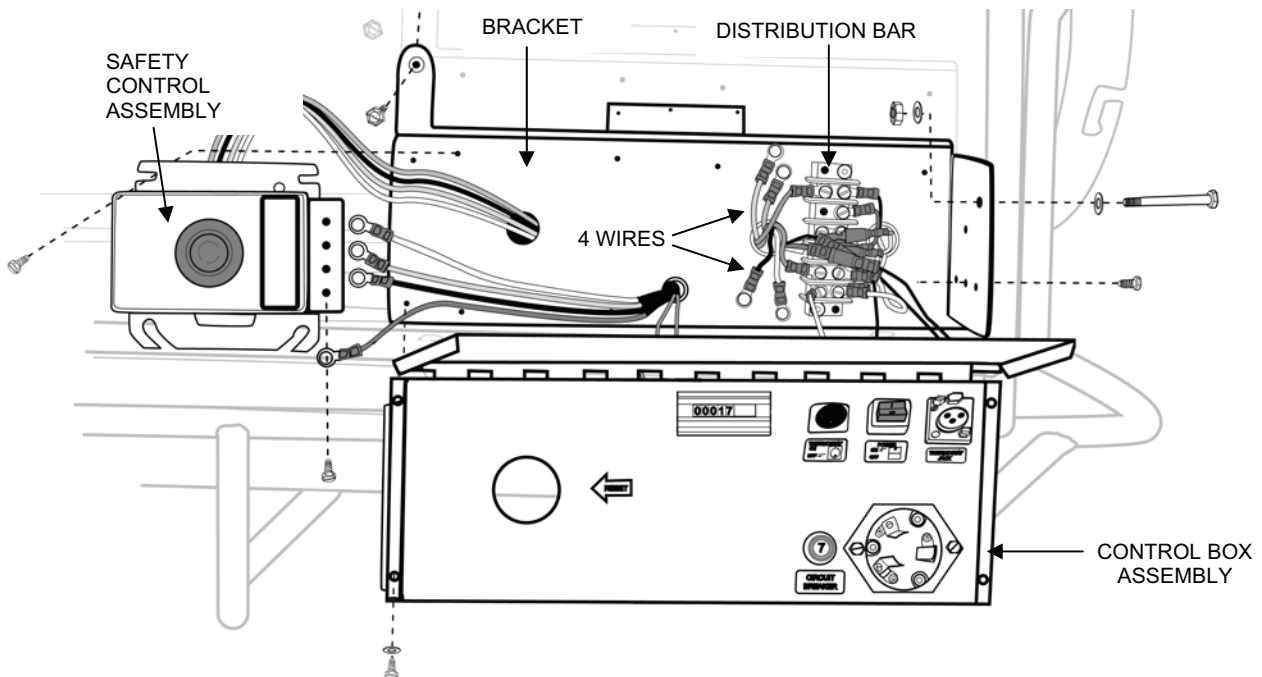

Figure 11. Diesel Heater Safety Control Assembly Replacement.
3. Remove the diesel heater safety control assembly as follows (see Figure 11):